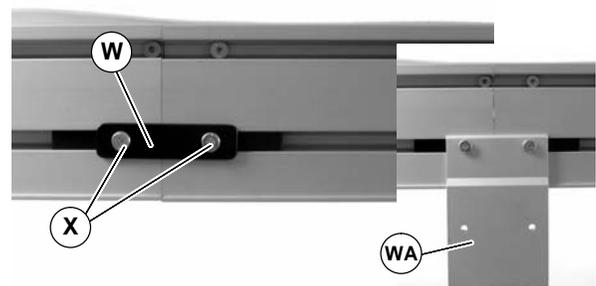

Figure 8
4. Join conveyor sections and install connector brackets (W of Figure 8) or connector/mount brackets (WA) and screws (X) on both sides as indicated. Tighten screws to 60 in-lb (7 Nm).